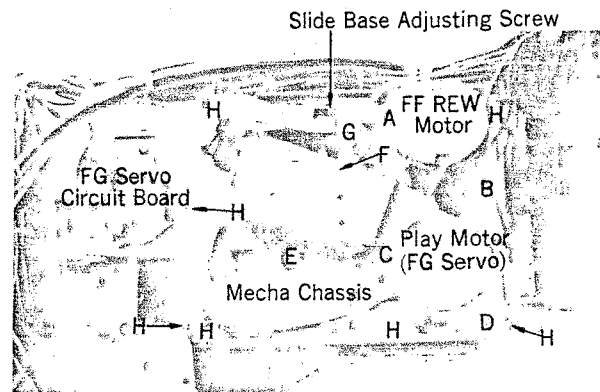

Fig. 5-6
- 2) Loosen sufficiently the Slide Base adjusting screw in Fig. 5-6, up to the point where the pinch rollers begin apart from the capstan.
- (1) By using a screw driver, screw-in the Flywheel Thrust Bearing to its end. (fasten slightly) (E in Fig. 5-6).
- (2) Turn back (loosen) by one revolution from its end position where the Bearing is fully fastened.